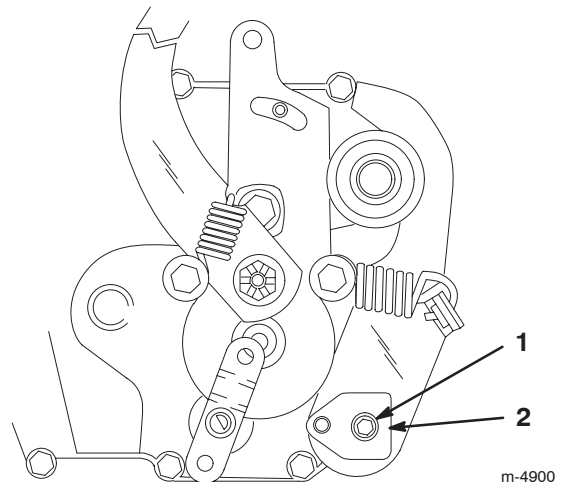

Figure 9
Note: To gain access to the adjusting puck (Fig. 9), you may need to remove the tire.
9. Loosen the adjusting puck screw (Fig. 9).
11. Rotate the adjusting puck (Fig. 9) in both directions until you find the midpoint where the axle no longer rotates forward or reverse.